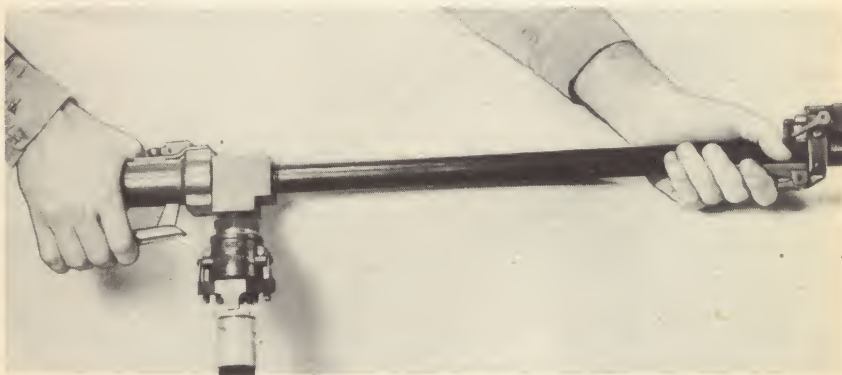

Fig. 27. Firing position of hands.
**b. Ignited firing.** (1) Ignition. Depress safety lock lever and squeeze ignition lever (fig. 27) once vigorously. A flash should appear at the front of the gun showing that an incendiary charge of the ignition cylinder has been ignited. If the flash does not appear, pull the ignition lever again, or as often as necessary up to five times, until a flash appears.
(2) Gun valve. Immediately after obtaining ignition, compress the gun valve forcefully to its full stroke (fig. 27) with the right hand. Burning fuel will be propelled from the gun (figs. 28 and 29).
(3) Adjusting fire. Direct flaming fuel at the target. Continue to squeeze the gun valve throughout the burst. When thickened fuel is fired, follow the fuel with eyes to the side of the stream in order to observe and correct aim. (If eyes are directly behind the stream, the flame may obscure the target.)